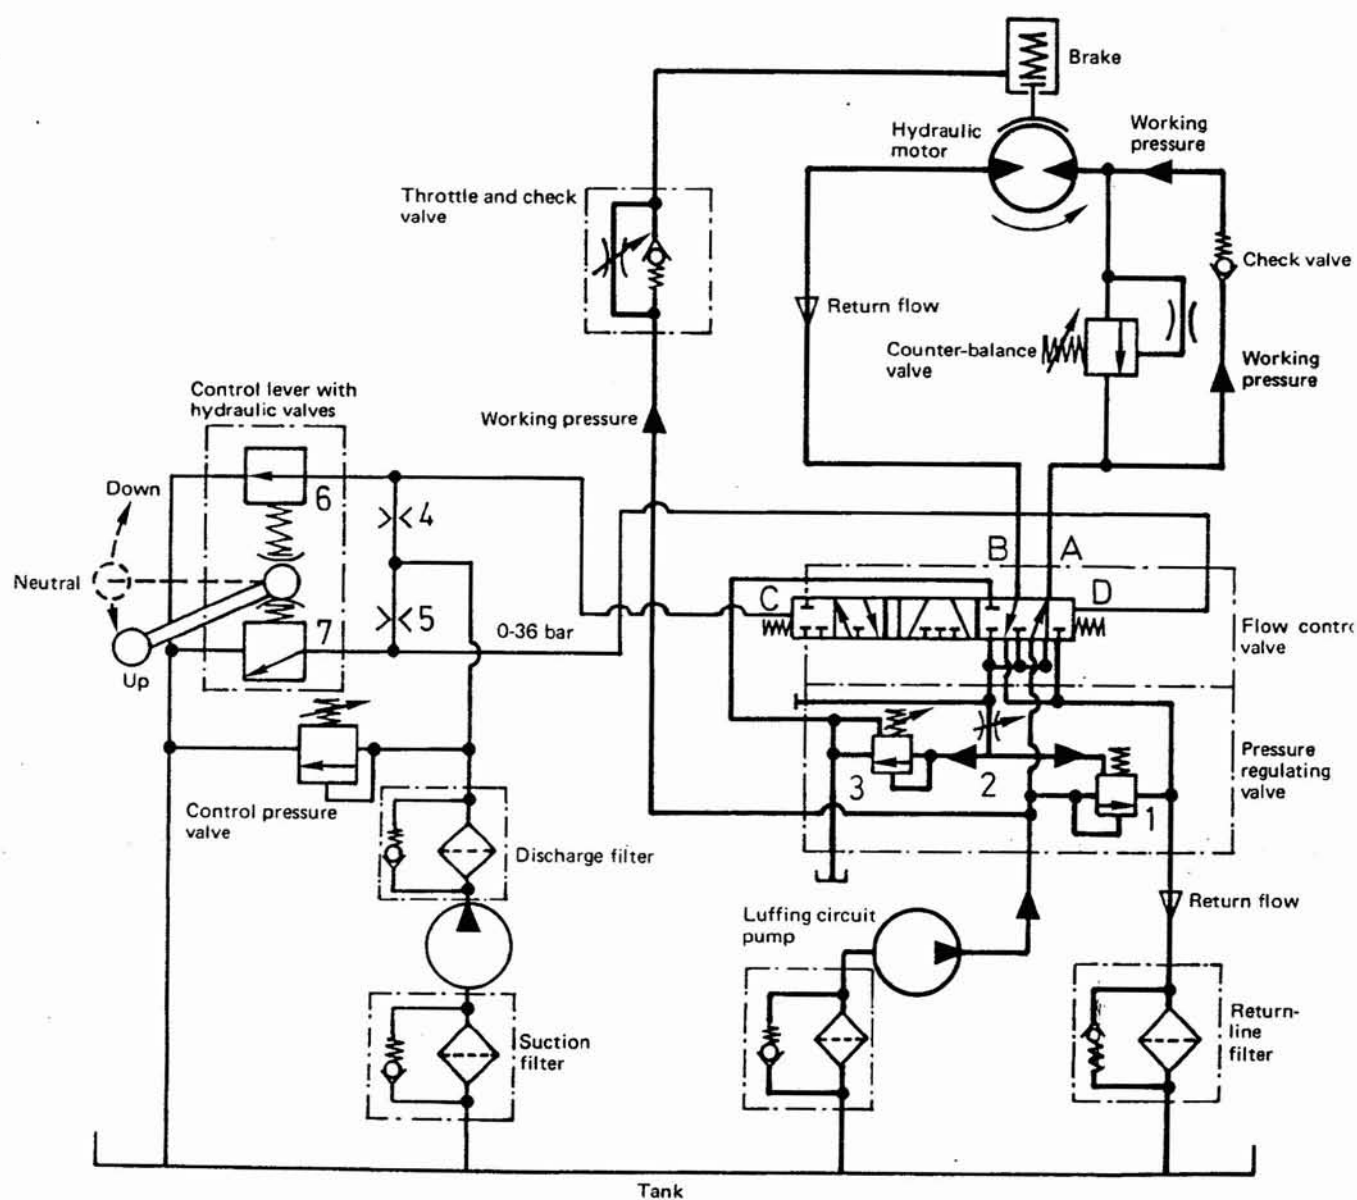

Fig. 20
Raise jib – Fig. 20
To raise the jib, move the control lever to operating position »up», Fig. 20. Control valve, item 7, is part throttled, and control pressure is obtained at the three-position flow control valve, which moves to the position shown in Fig. 20.